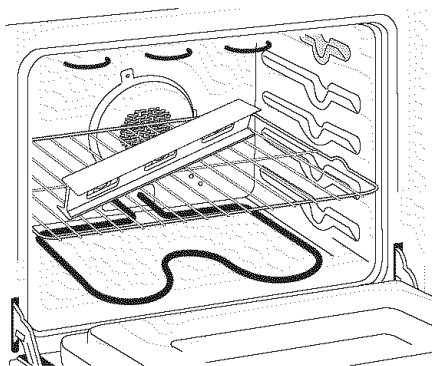

Figure 13
3. Check if the range is level by installing an oven rack in the center of the oven and placing a level on the rack (Figure 13)